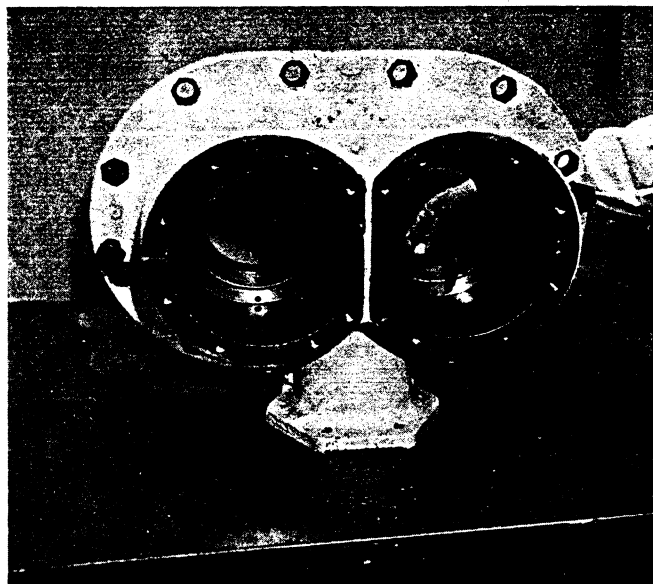

Figure 25
12. Measure the thickness of the bearing housing at the bearing outer race seat. Refer to Figure 25. This is dimension "A". Do this for each rotor. Note these measurements as shown. (Use a 1-2 inch micrometer to measure dimension "A".)